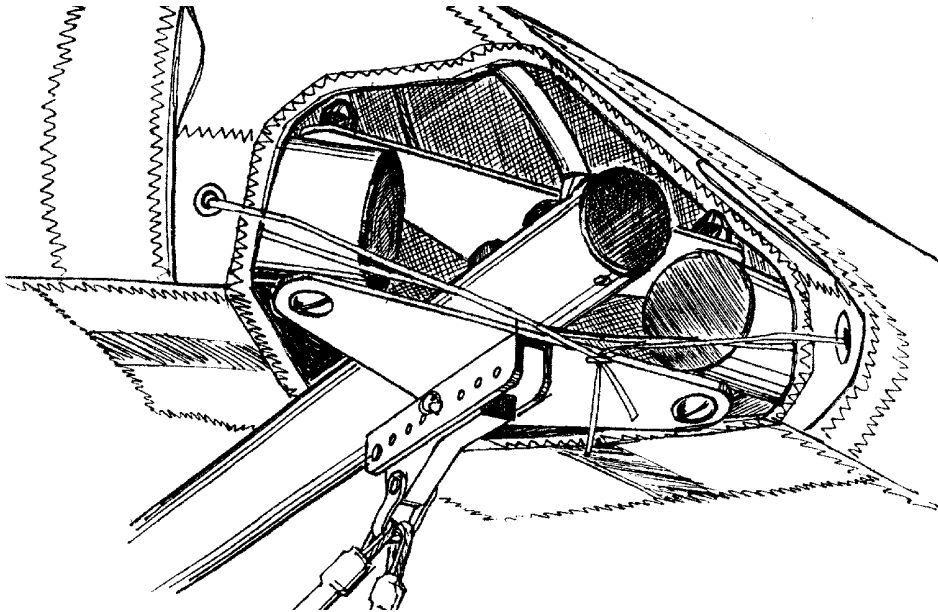

Fig. 28
2.2.10. Secure the lock of the bottom front wires in the channel of the nose assembly by the pin and the safety ring / quick pin (Fig.28). If necessary put the fork of the keel batten on the keel tube.